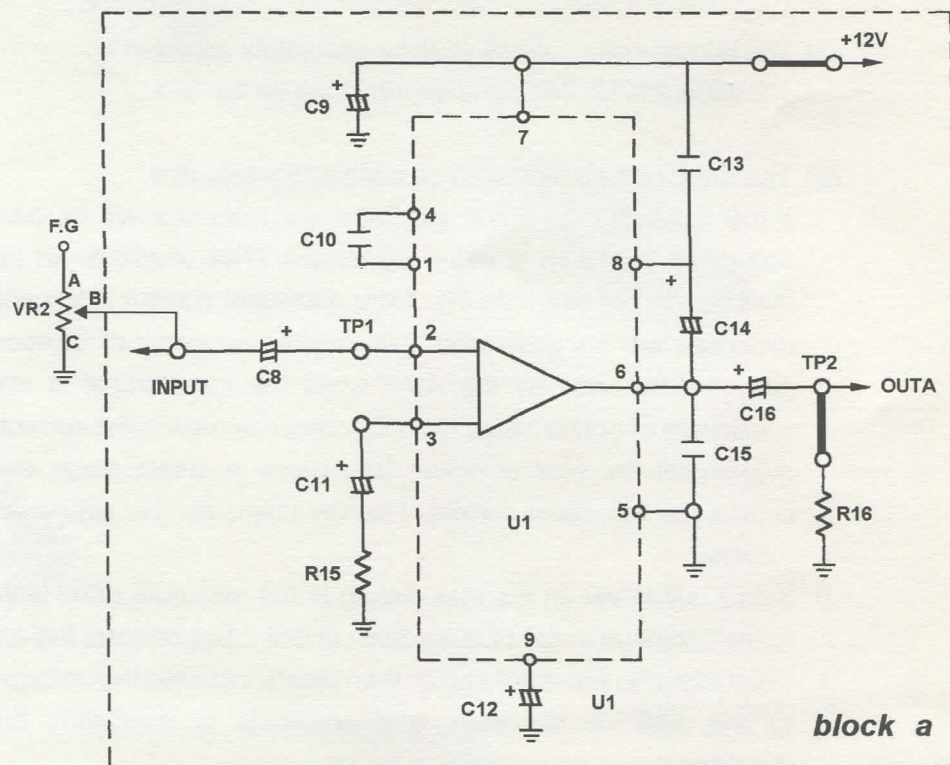

Fig 9-7 (a) (Fig 23006-block a)
- (1) Insert the short-circuit clip by referring to Fig 9-7 (a) and the short-circuit clip arrangement diagram 23006-block a, then connect A $8\Omega/0.5W$ resistor as the load(R16).
- (2) Connect signal generator to VR2 , then connect VR2 in the input terminal (INPUT)(Because the IC amplifier is ver large, so the input singal must be lower). Connect oscilloscope to the input terminal (INPUT) and the output terminal (OUTA). Adjust the signal generator to 1KHz sine wave and gradually increase the output voltage of signal generator so that the oscilloscope can display maximum non-distorted waveform of this IC output.
- (3) Change the connections to $8\Omega/0.5W$ speaker for output terminal and to other signal source such output of walkman for input terminal, then listen to sound effect.